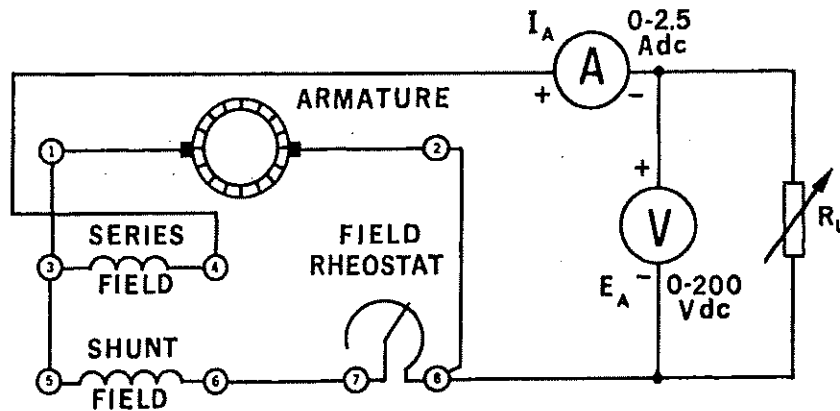

Figure 9-2.
3. a. Using your DC Motor/Generator, DC Voltmeter/Ammeter and Resistive Load, connect the circuit shown in Figure 9-2.